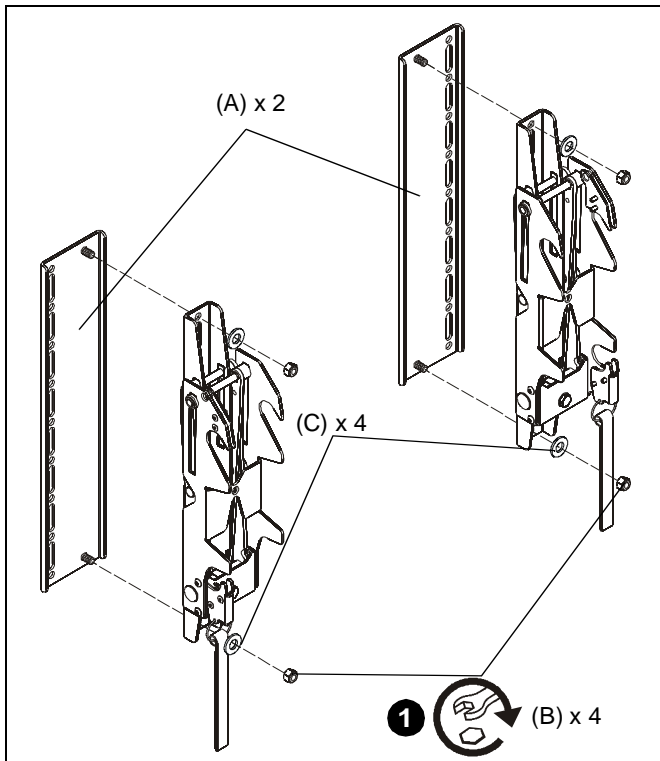

Figure 1
1. Use four 5/16-18" hex nuts (B) and four flat washers (C) to connect Fusion uprights to extender brackets (A). (See Figure 1)